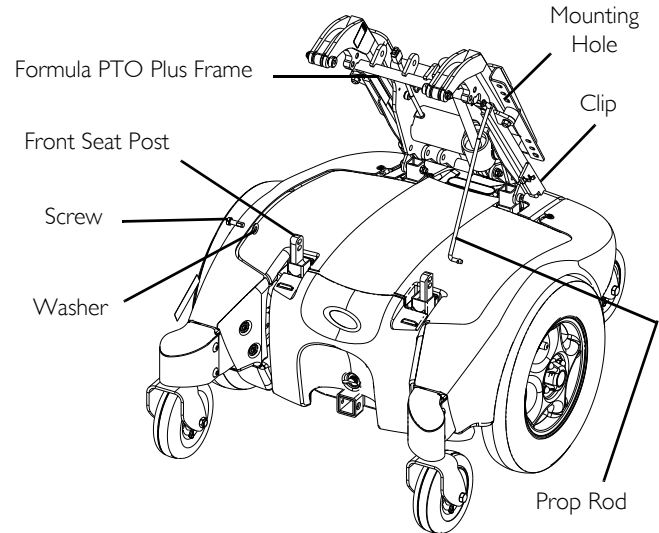

FIGURE 15 Tilting the Seat Assembly
For this procedure, refer to FIGURE 15 on page 65.
8. Remove prop rod from the clip located on the Formula PTO Plus frame and engage the prop rod end into the front seat post as shown in FIGURE 15.